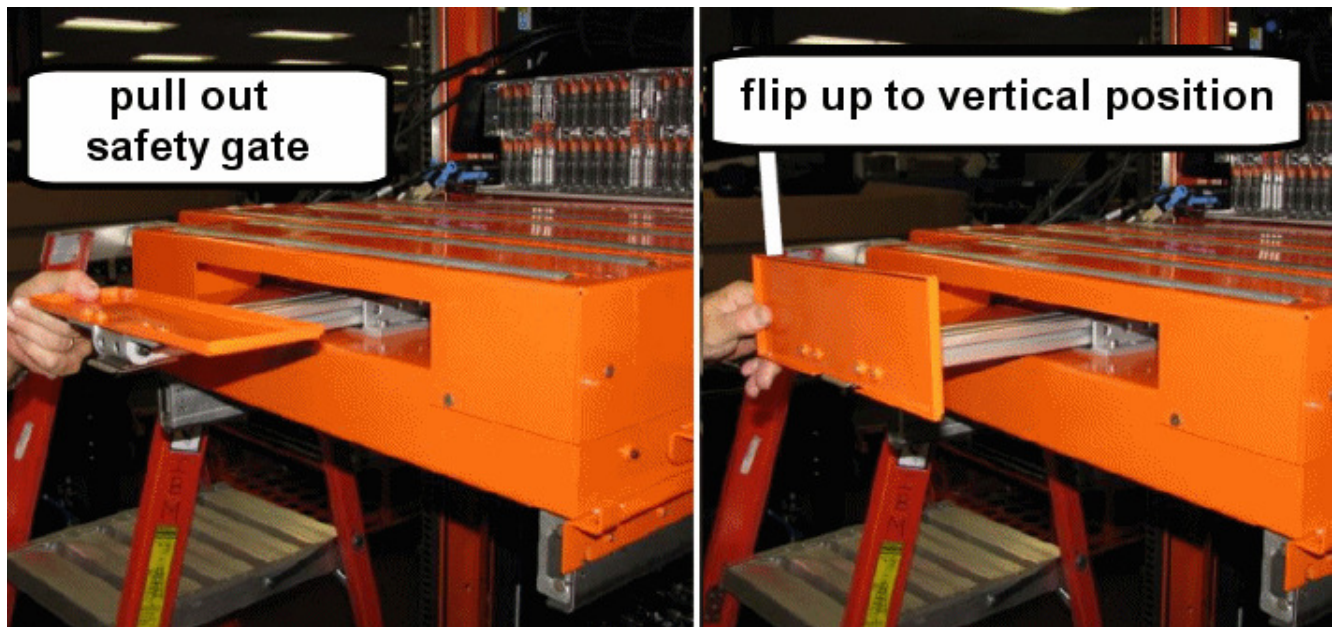

Figure 14 Safety gate positioning
STEP 22 Pull out the rear safety gate and flip it up to the vertical position, see Figure 14.